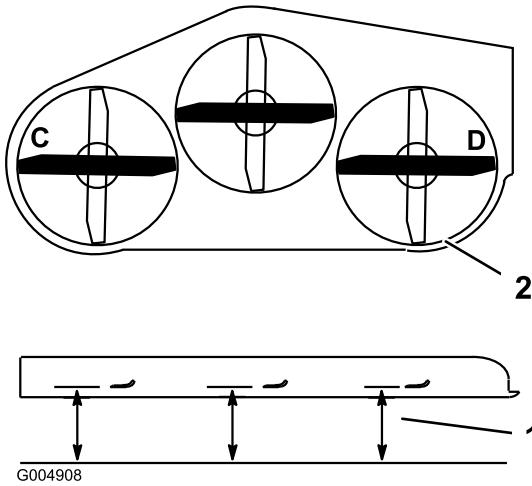
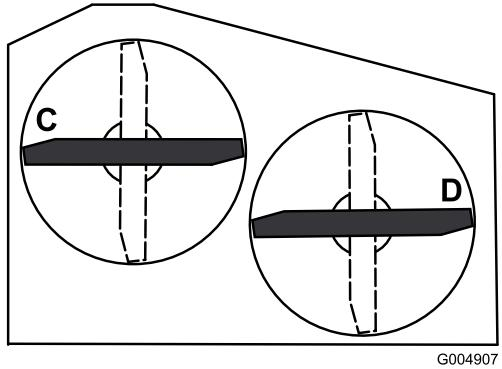

Figure 69
Figure 70
2. Position the blades side-to-side. Measure at **C** and **D** locations from a level surface to the cutting edge of blade tips (Figure 69). For 36 inch mower decks use Figure 70.